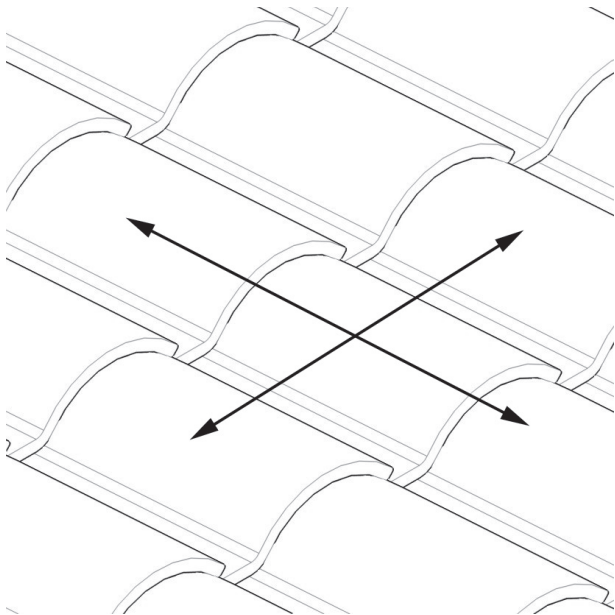

Figure 3.
2. Determine which course of the roof you wish to penetrate. It may be necessary to remove a few tiles to locate the rafter locations. See Figures 3 & 4.